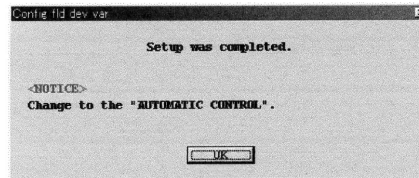

Fig.27
⑧ When the previous settings are replaced with the new settings just entered in response to clicking on "OK", a message box as shown in Fig. 27 appears. Clicking on "OK" button at this point completes the setup.